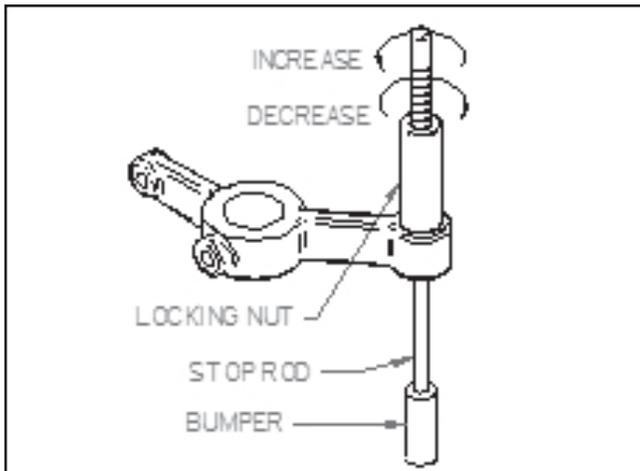

Figure 4
**Pocket size may be adjusted higher or lower to accommodate various dough sizes and rounding consistency. This will require experimenting to obtain the correct pocket height for various products and doughs. See adjustments on Page 5, Item 1, Fig. 4.**
**Achieving the best results with your dough will require some experimenting with the pocket settings and rounding action. See Adjustments Pg. 5 Item 1, Fig 4.**
1. Your new Dutchess Divider/Rounder comes equipped with a "Expandable Pocket" design. Experimentation will be required to determine the correct pocket height for each size dough ball. To increase the pocket height, loosen the locking nut by turning counter clockwise. Turn the stop rod clockwise to decrease pocket height (for smaller rolls) and counter clockwise to increase pocket height (for larger rolls). Retighten locking nut before rounding by turning clockwise. See Fig. 4